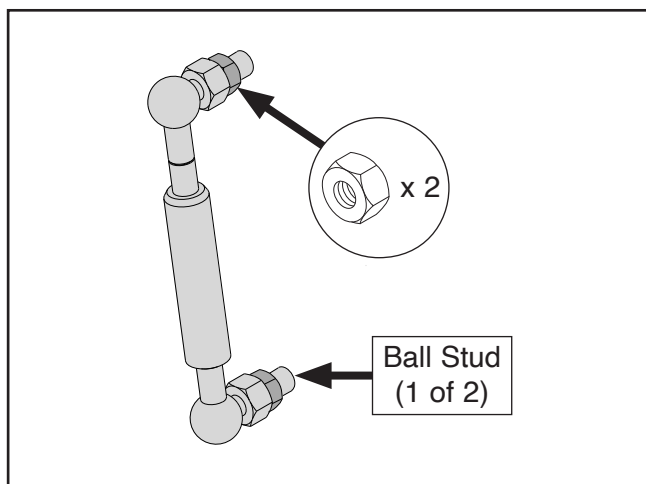

Figure 53. Hex nuts threaded all the way onto ball studs.
1. On new gas strut, thread (2) hex nuts all the way onto ball studs, as shown in **Figure 53**.